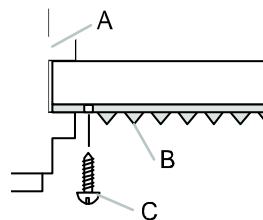

Figure 1
2. Remove 1 shipping screw from each side. (Figure 1)
- Vinyl Windows- Use a 1/8" drill bit to drill two holes through the holes in the side curtains into the window frame. Screw in the #10 x 3/4" Flat Screw through the holes in the side curtains into the window sash. Refer to figure 1 above.